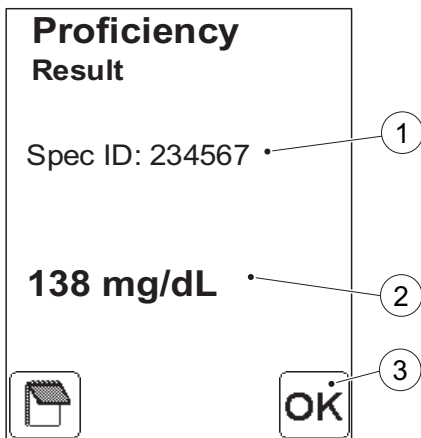

FIGURE 6-30
- e) Enter the Specimen ID either directly on the Display via the Text mode and Numeric mode buttons, or with the Barcode Scanner via the Barcode Scanner button. When finished, *FIGURE 6-30* will be displayed.